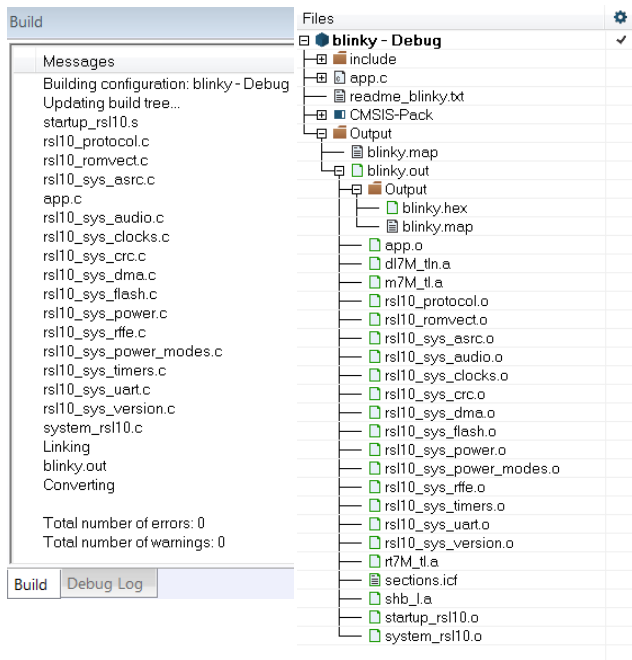

Figure 35. Example of Build Output
- When the build is running, the output of the build is displayed in the Build Output view in the IDE, as illustrated in Figure 35.